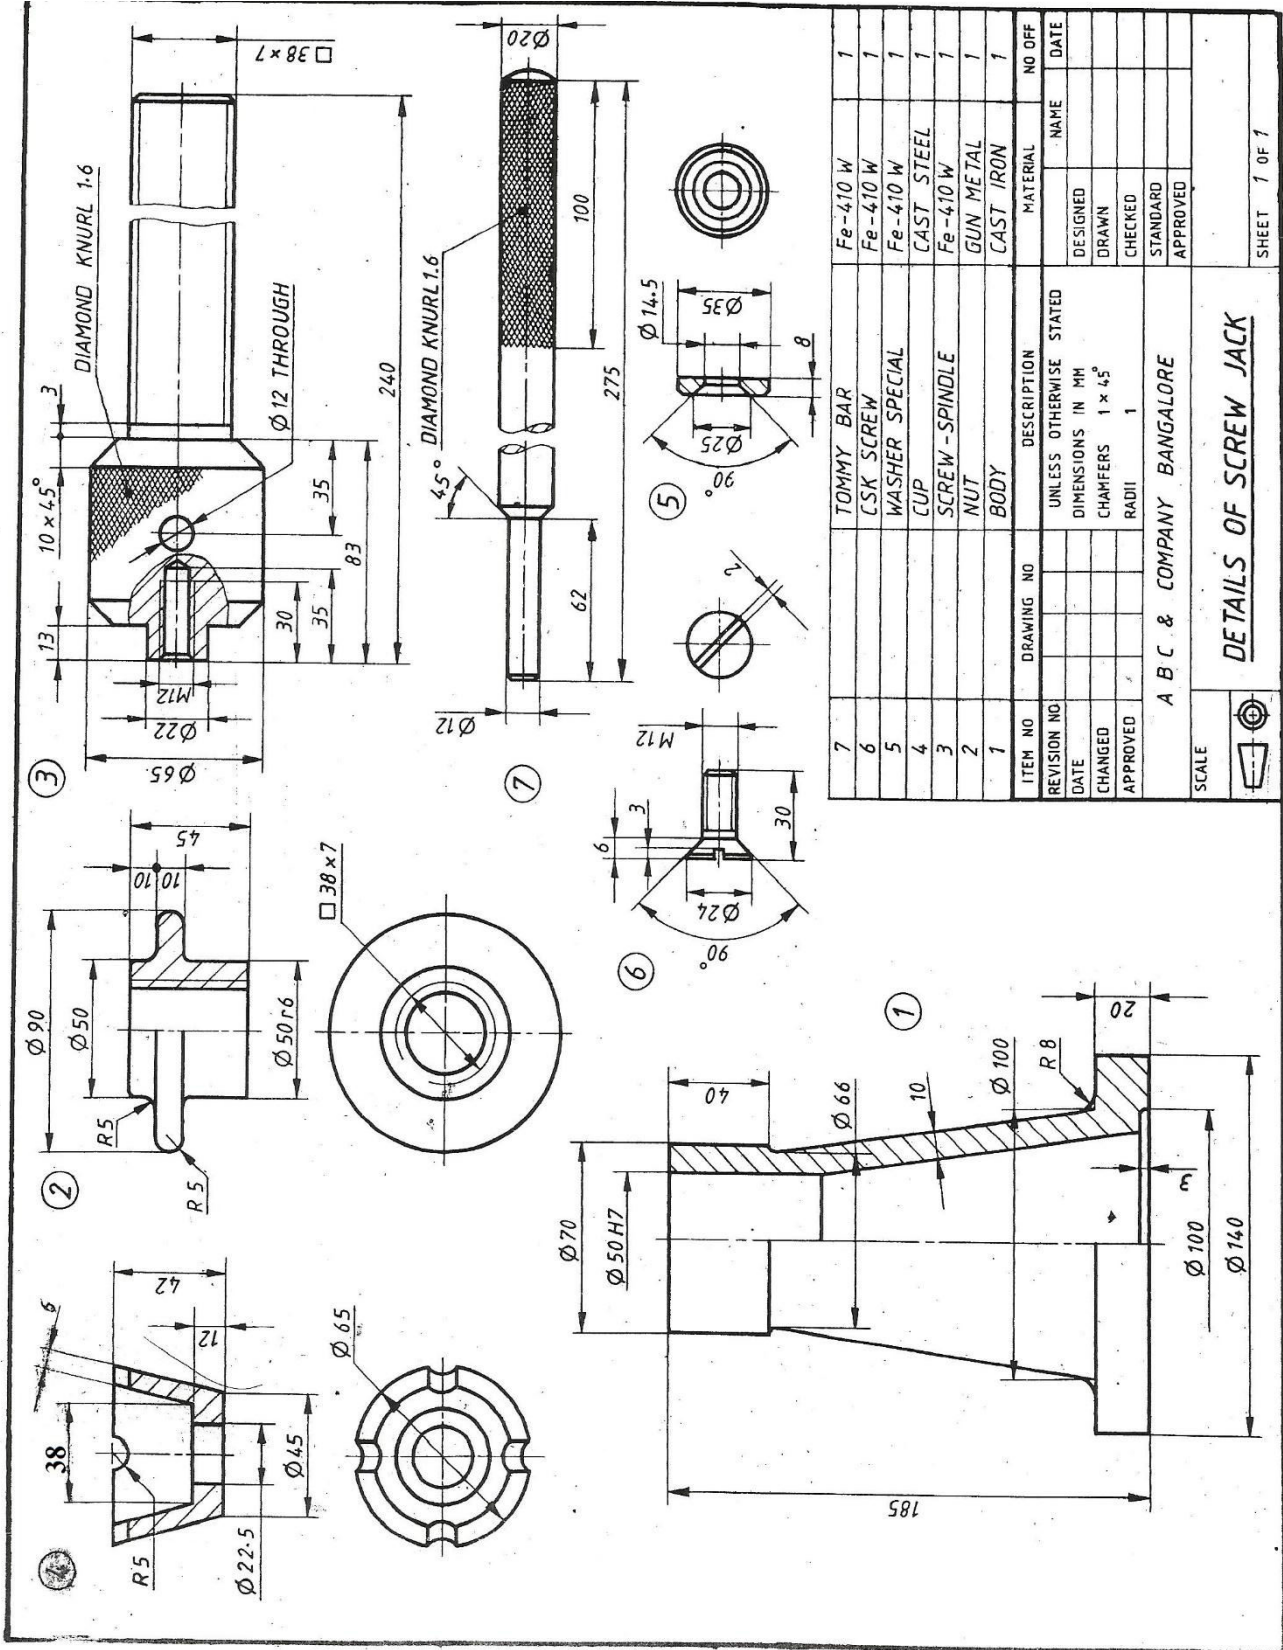

Figure 3 - Screw Jack
4. Figure 3 shows the details of a “**Screw Jack**”. Assemble the parts show the following views.